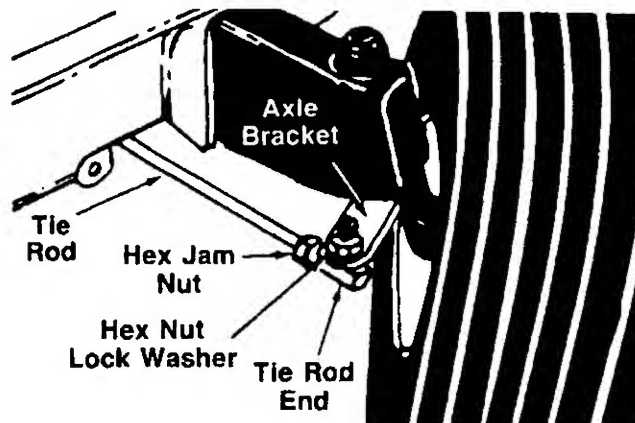

FIGURE 19.
1. Remove the hex nut and lock washer, and drop the tie rod end from the axle bracket. See figure 19.